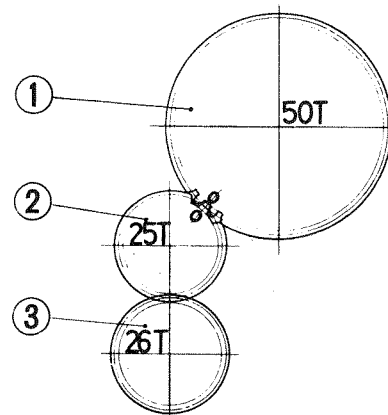

Fig. 33 Assembly mark of gears
(6) Main integral parts
- ① Be sure to align the assembly marks of the various gears correctly as illustrated in Fig. 33.
- ② The crank gear and the cam gear should be heated to about 176°F (80°C) and inserted into the crankshaft and the camshaft. In this case if the shrinkage should be much and there are fears that the shaft would be damaged, lower the temperature much more and make soft before inserting.